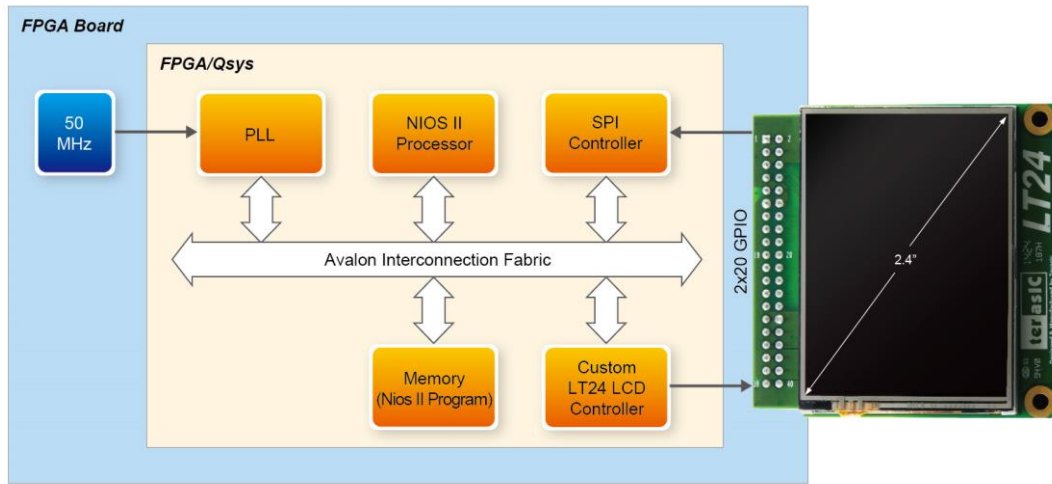

Figure 3 System Block Diagram
**Figure 3** shows the system block diagram of Painter demonstration. Terasic custom Qsys component - **LT24 LCD controller** is used to display 240(H) x 320(V) image. Its source code is located in the “/ip/LT24\_Controller” folder of Painter demo project. Qsys built-in SPI controller is used to communicate with the AD7843 ADC via SPI interface to retrieve data from the touch screen. The Nios II program handles touch event and image display. It is stored in either on-chip memory or external memory. The LCD module should be initialized before sending image data to the LCD for image display.